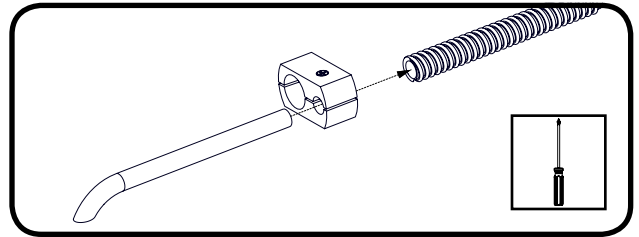

Figure 6
1. Slip the provided drill adapter over the vacuum nozzle, keeping it loose (Figure 6).
3. Insert the nozzle 2" into the inside of the hose (Figure 6).